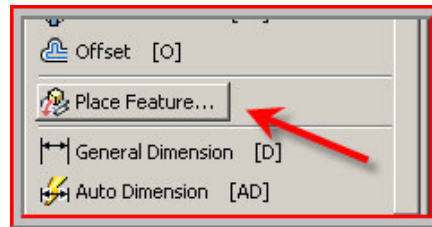

Figure 01 Selecting Place Feature
Step 02: Once you have opened Sketch Panel, scroll down the 2D Sketch panel to find the Place Feature as shown in figure 01